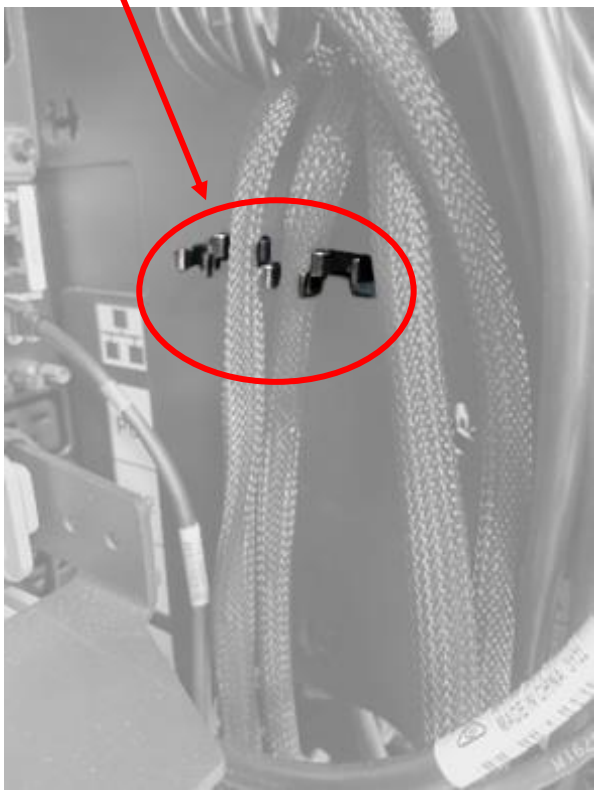

Figure 13: Frame Side Clip: PCIe+ Cables
- Frame Side Clip for PCIe+ (CDFP) Cables (reference Figure 13)